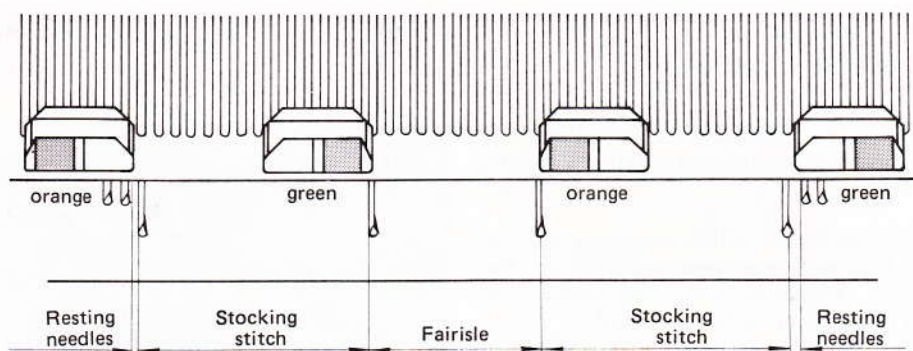
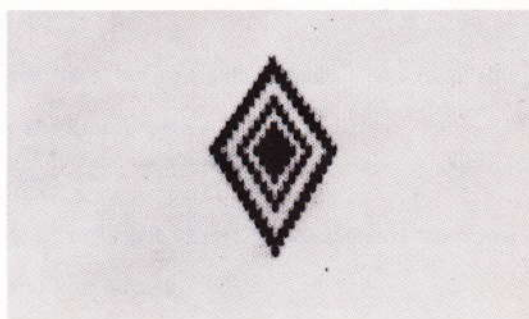

Fig. 115
Fig. 116
- When the motif cams are placed as indicated in fig. 115, the motif will knit between the green and orange cams in the centre and there will be plain stocking stitch each side.
When the stitches at each end are to be knitted in stocking stitch (as in fig. 116) put a cam at each end of the work as in fig. 115.